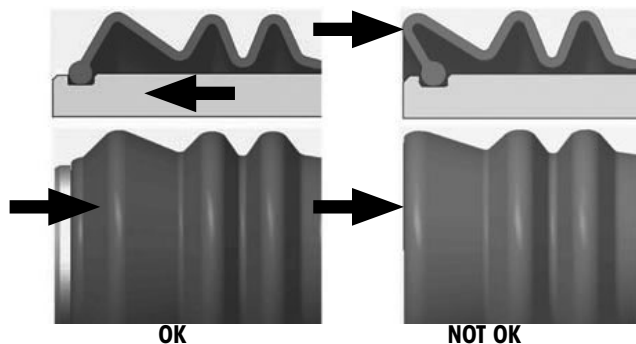

Figure 68: Guide pin boot installation
12. **Manually push** the guide pins out of the brake caliper towards the brake carrier until the leading fold (Figure 68, NOT OK) of the guide pin boot pulls away from the collar (Figure 68, OK).